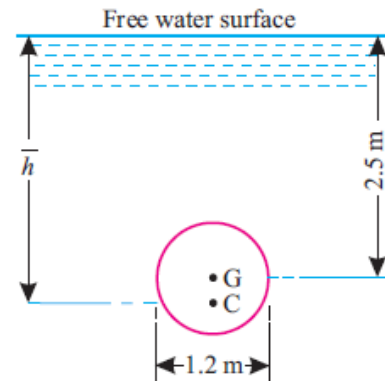

Fig. 3.7
**Example 3.1.** Fig. 3.7 shows a circular plate of diameter 1.2 m placed vertically in water in such a way that the centre of the plate is 2.5 m below the free surface of water. Determine: (i) Total pressure on the plate. (ii) Position of centre of pressure.